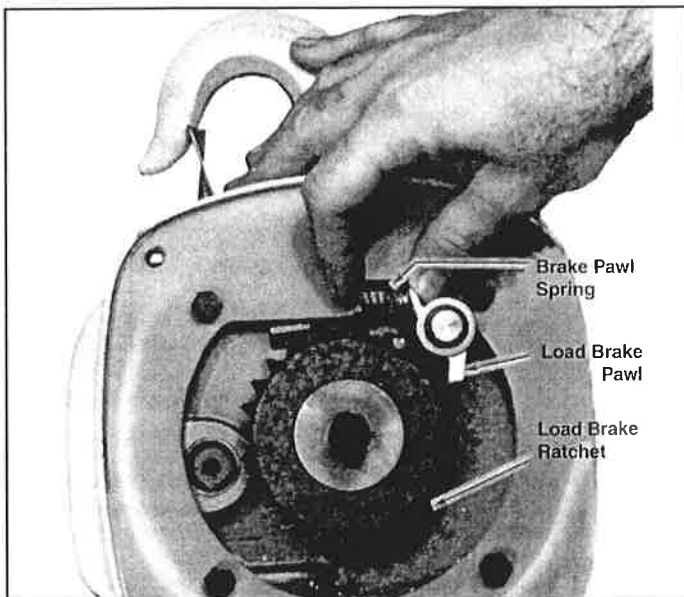

Figure 7-5. Installing Load Brake Pawl
a. Pull two friction washers and brake ratchet off shaft of brake flange while holding brake pawl open. See Figure 7-5.
b. After the load brake flange is in place, the order of assembly is; friction washer, then ratchet, then second friction washer. On the 1/4 and 1/2 ton models only, the friction washers are of different diameters. The large diameter friction washer goes on first, followed by the ratchet and then the smaller diameter woven friction washer. On the other models the light colored woven friction washer goes on first, followed by the ratchet and then the dark colored molded friction washer. The brake pawl and spring are then installed. The brake pawl spring has a closed end. On 1/4 and 1/2 ton hoist models, the open end must be installed to the pawl. On other models, the closed end must be installed to the pawl. The open end of the spring on 1 and two load chain 2 ton models goes against the adapter assembly. See Figure 7-5.